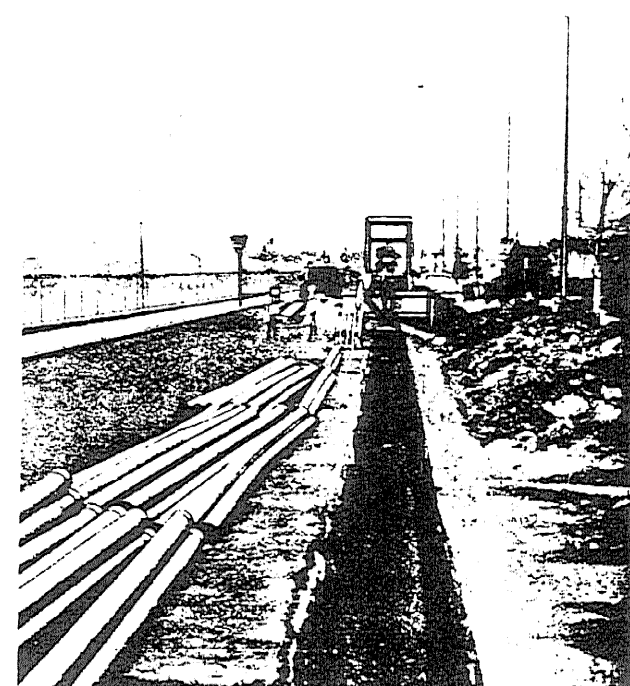

Fig. 1 — Conduit Along Trench Site
3.01 If practical, distribute the conduit along the route of the trench, as shown in Fig. 1. Where conduit cannot be distributed along the trench, route delivery and storage procedures should be determined locally.